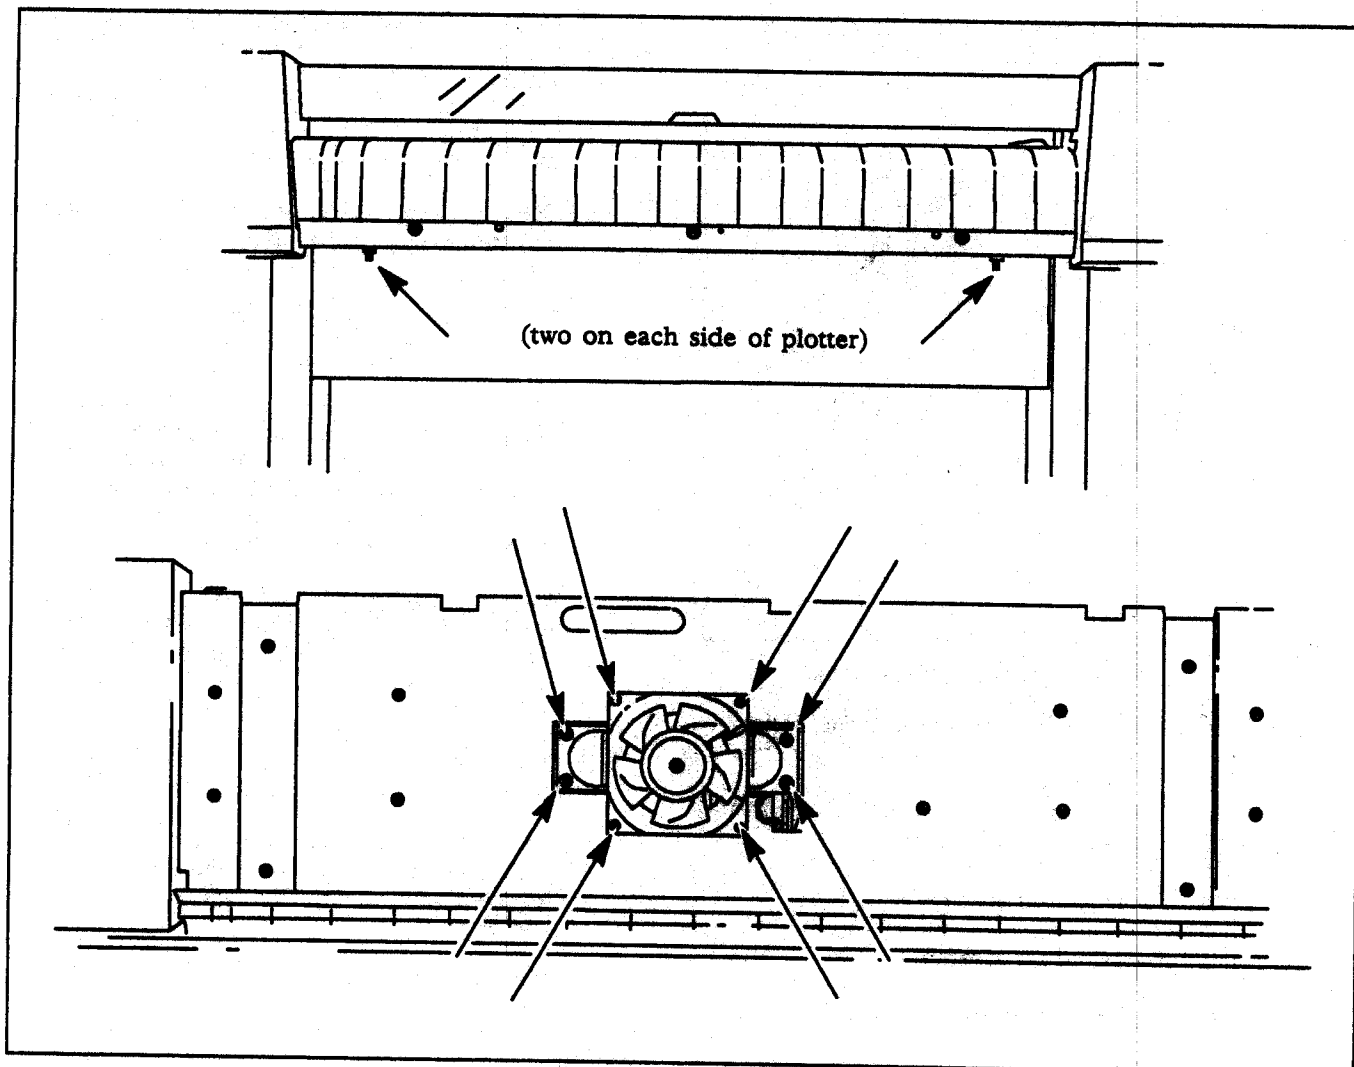

Figure 6-35. Fan and Fan Mount Removal
- b. Remove the four 10 mm nuts with washers that secure the plotter to the plotter stand. See Figure 6-35.
- g. Remove the four self-tapping screws securing the fan to the mount and notice that the fan is installed with the fan ribs facing the fan mount. See Figure 6-35.
- b. Remove the four Torx screws securing the fan mount to the datum bar. See Figure 6-35.
- a. Remove the four 10 mm nuts with washers that fasten the plotter to the plotter stand. See Figure 6-35.